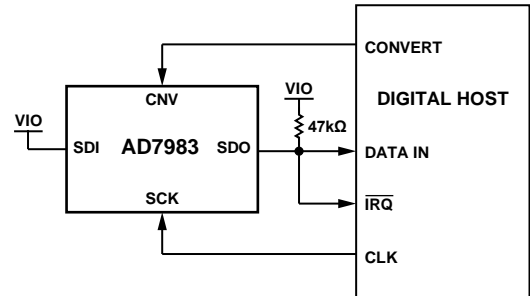
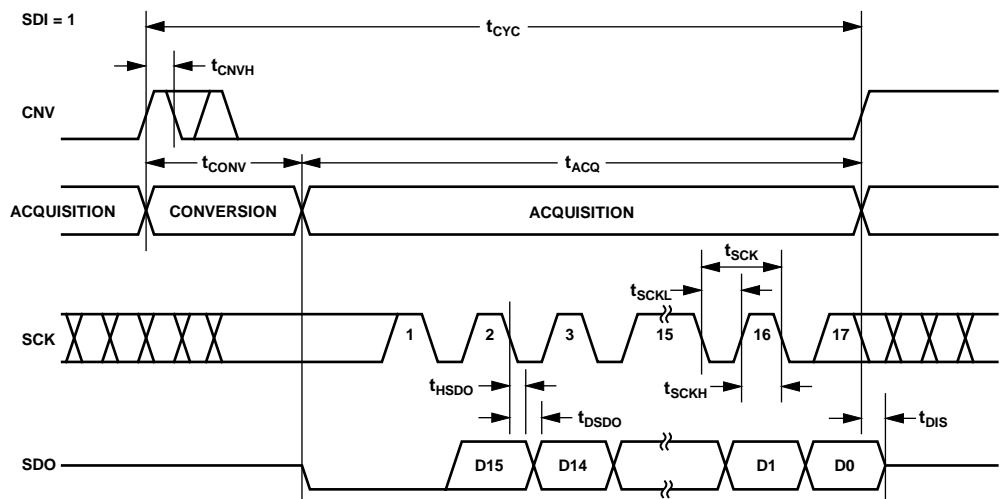
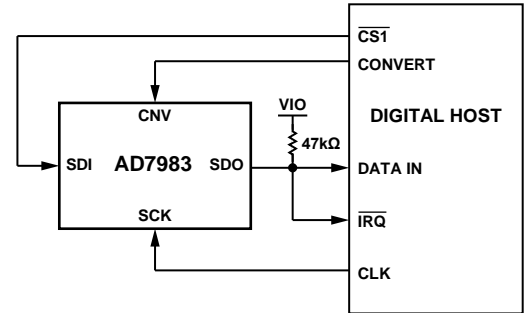
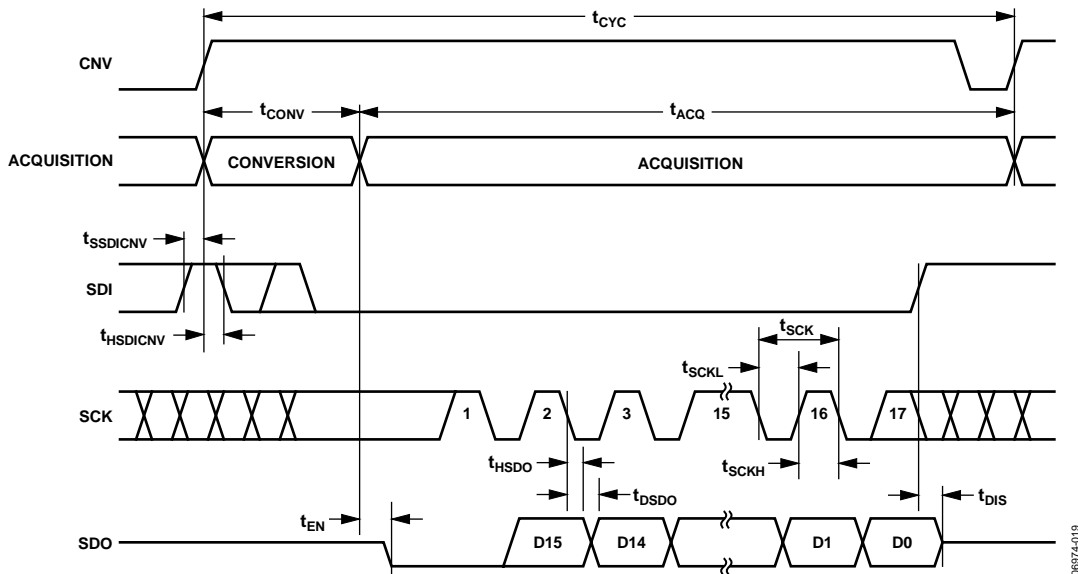

Figure 27.  $\overline{\text{CS}}$  Mode, 3-Wire with Busy Indicator Connection Diagram (SDI High)
Figure 28.  $\overline{\text{CS}}$  Mode, 3-Wire with Busy Indicator Serial Interface Timing (SDI High)
Figure 31.  $\overline{CS}$  Mode, 4-Wire with Busy Indicator Connection Diagram
Figure 32.  $\overline{CS}$  Mode, 4-Wire with Busy Indicator Serial Interface Timing
- In  $\overline{\text{CS}}$  mode if CNV or SDI is low when the ADC conversion ends (see Figure 28 and Figure 32).
The connection diagram is shown in Figure 27, and the corresponding timing is given in Figure 28.
The connection diagram is shown in Figure 31, and the corresponding timing is given in Figure 32.